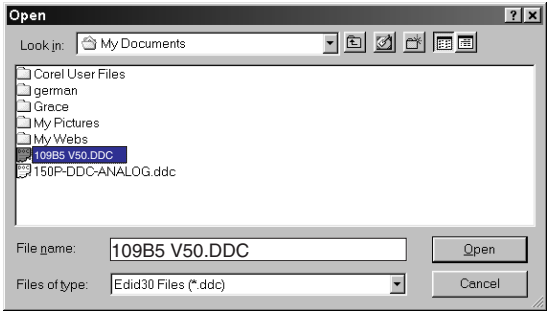

Fig. 20
2. Select the file you want to open as shown in Fig. 20.